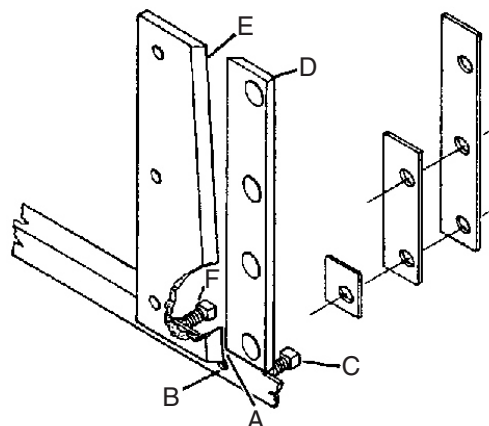

Figure 126. Plunger Knife
After adjusting the plunger, shim the stationary knife (see Figure 126, D), so the two knives clear each other by 1/16" at the top, (E). Do not attempt to shim the plunger knife.